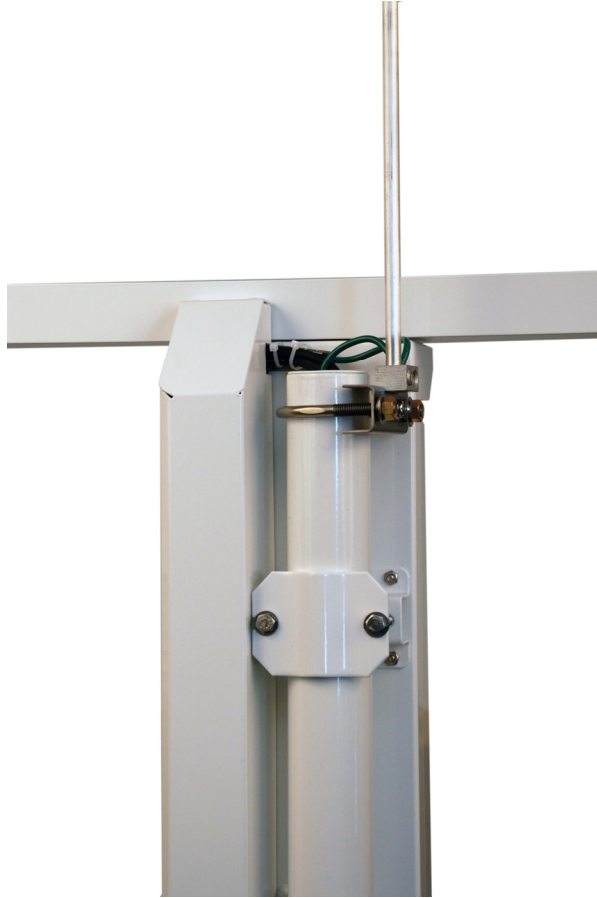

FIGURE 2.9-2. Connector Cover in Place
6. Tighten down the wire ties holding cabling to the wire tie harness and clip off any excess. See Figure 2.9-2.